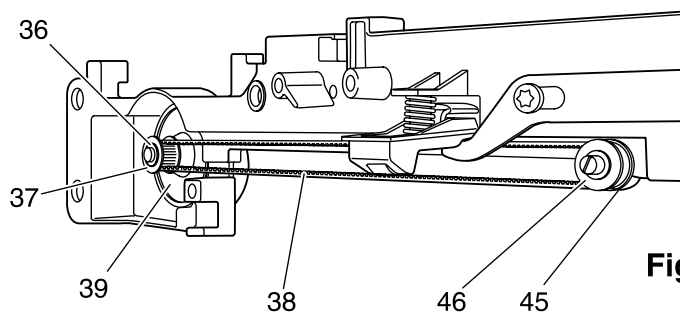

**Fig. 18**
7. Remove the circlip 36 of the stepping motor gear (Fig. 18).
7. Insert the adjusting eccentric 46 for the belt tension (Fig. 18).
11. Insert the plastic washer and the gear 39 (Fig. 18).
17. Insert the toothed belt 38 (Fig. 18).